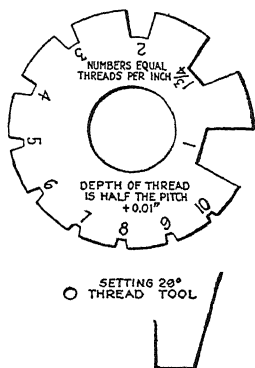

FIG. 195.—Gauges for grinding and setting Acme-thread tools.
1. The Acme-thread tool, external and internal, is ground to gauge for the pitch required (see Fig. 195).